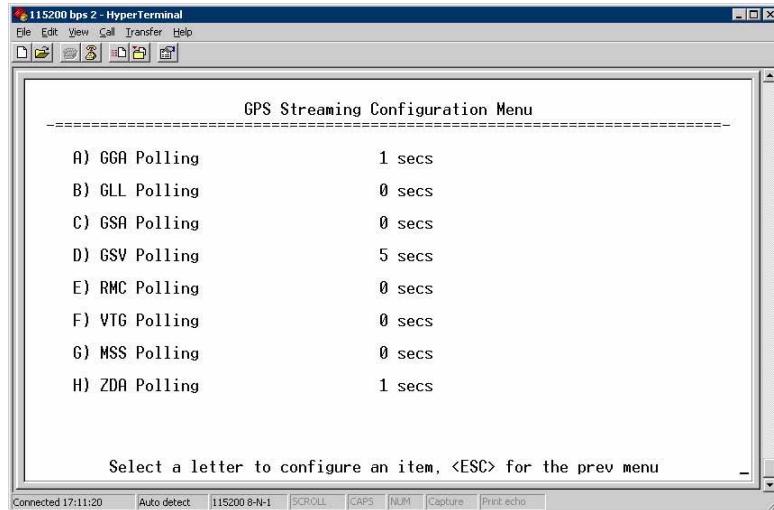

Figure 3-68. GPS Streaming Configuration Menu
- ¥ **GPS Streaming Configuration** □ A submenu for setting GPS NMEA outputs. (See Figure 3-68 on Page 99.)